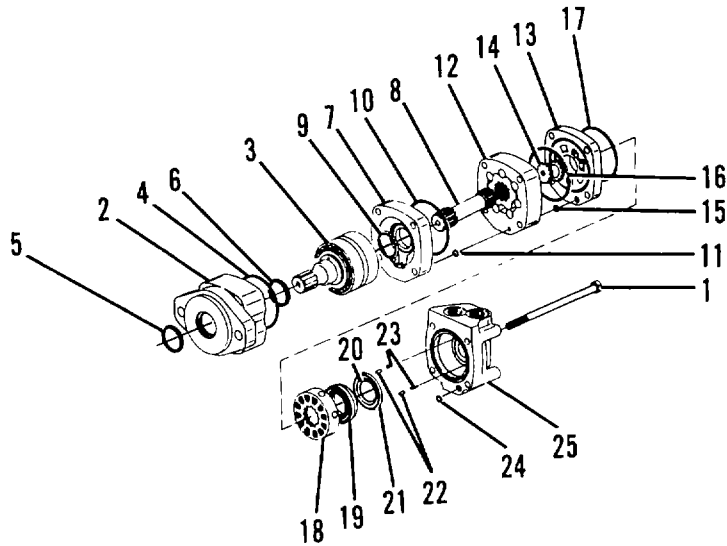

Figure 4-10.1. Hydraulic Motor Assembly.
(n) Remove valve (18, Figure 4-10.1) balance ring (19), seals (20 and 21), two pins (22) and two springs (23). Discard seals.